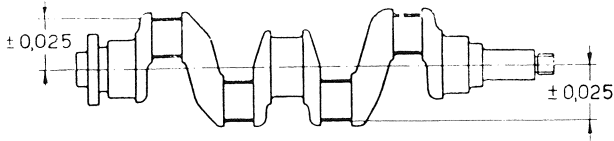

Fig. 73 - Crankpins to crankshaft centerline alignment maximum permissible tolerances.
b) maximum permissible tolerance on the distance between crankshaft axis and crankpin outer surface is $\pm .00098''$ ($\pm 0,025$ mm) (fig. 73).